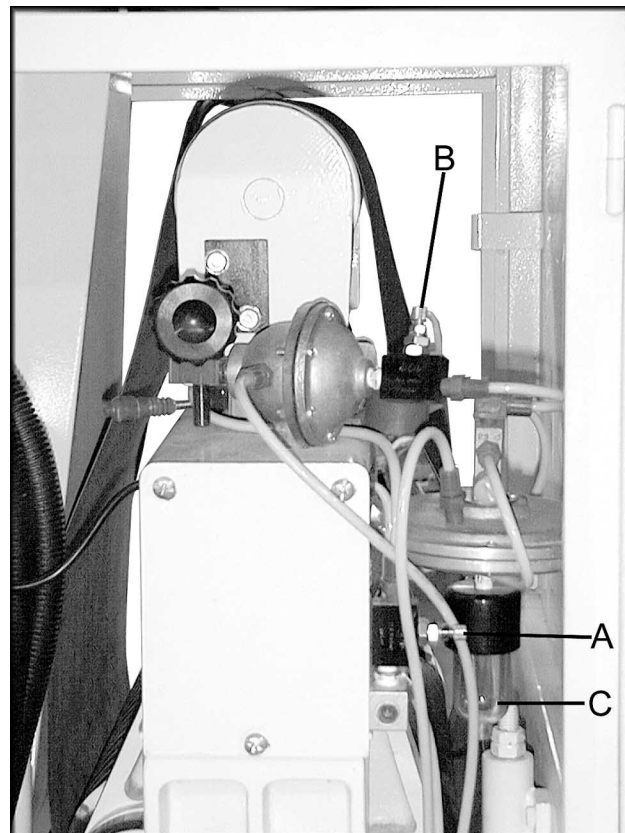

FIGURE 3
- Adjust the air valve (A), Figure 3, to control the tracking sensitivity.
- The oscillation speed can be controlled by adjusting the top air valve (B).
- Empty the glass container (C) as needed.